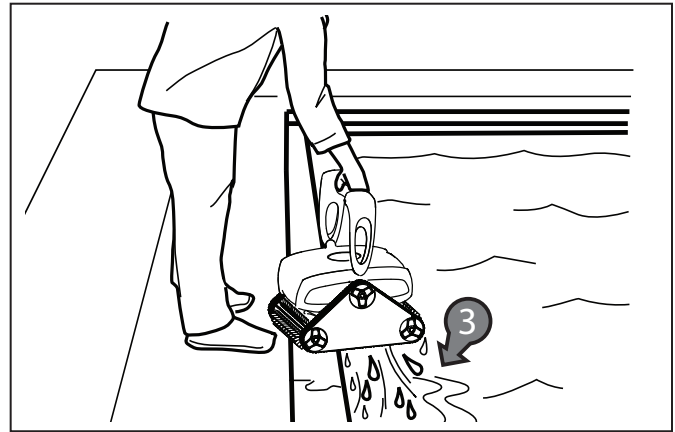

Figure 15. Lift Cleaner From Pool with Handle
3. Hold the cleaner vertically over the pool surface to drain water before removing (see Figure 15).